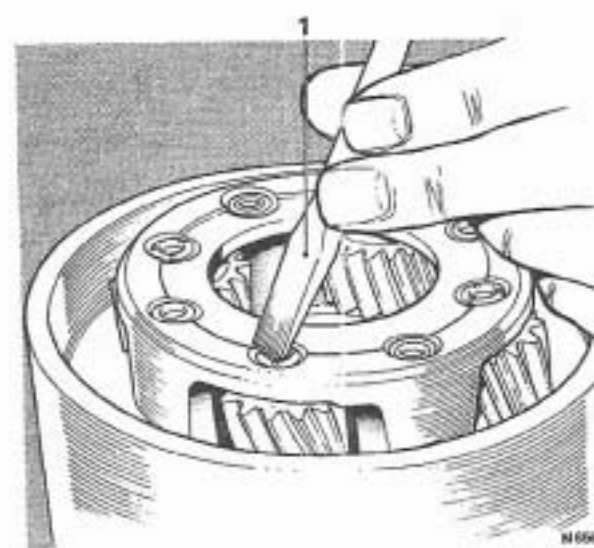

FIG. T275 STAKING A PINION PIN
12. Support the carrier with the head of the pin resting on the punch then, using a chisel with a radiused end stake the opposite end of the pin in three places (see Fig. T275).